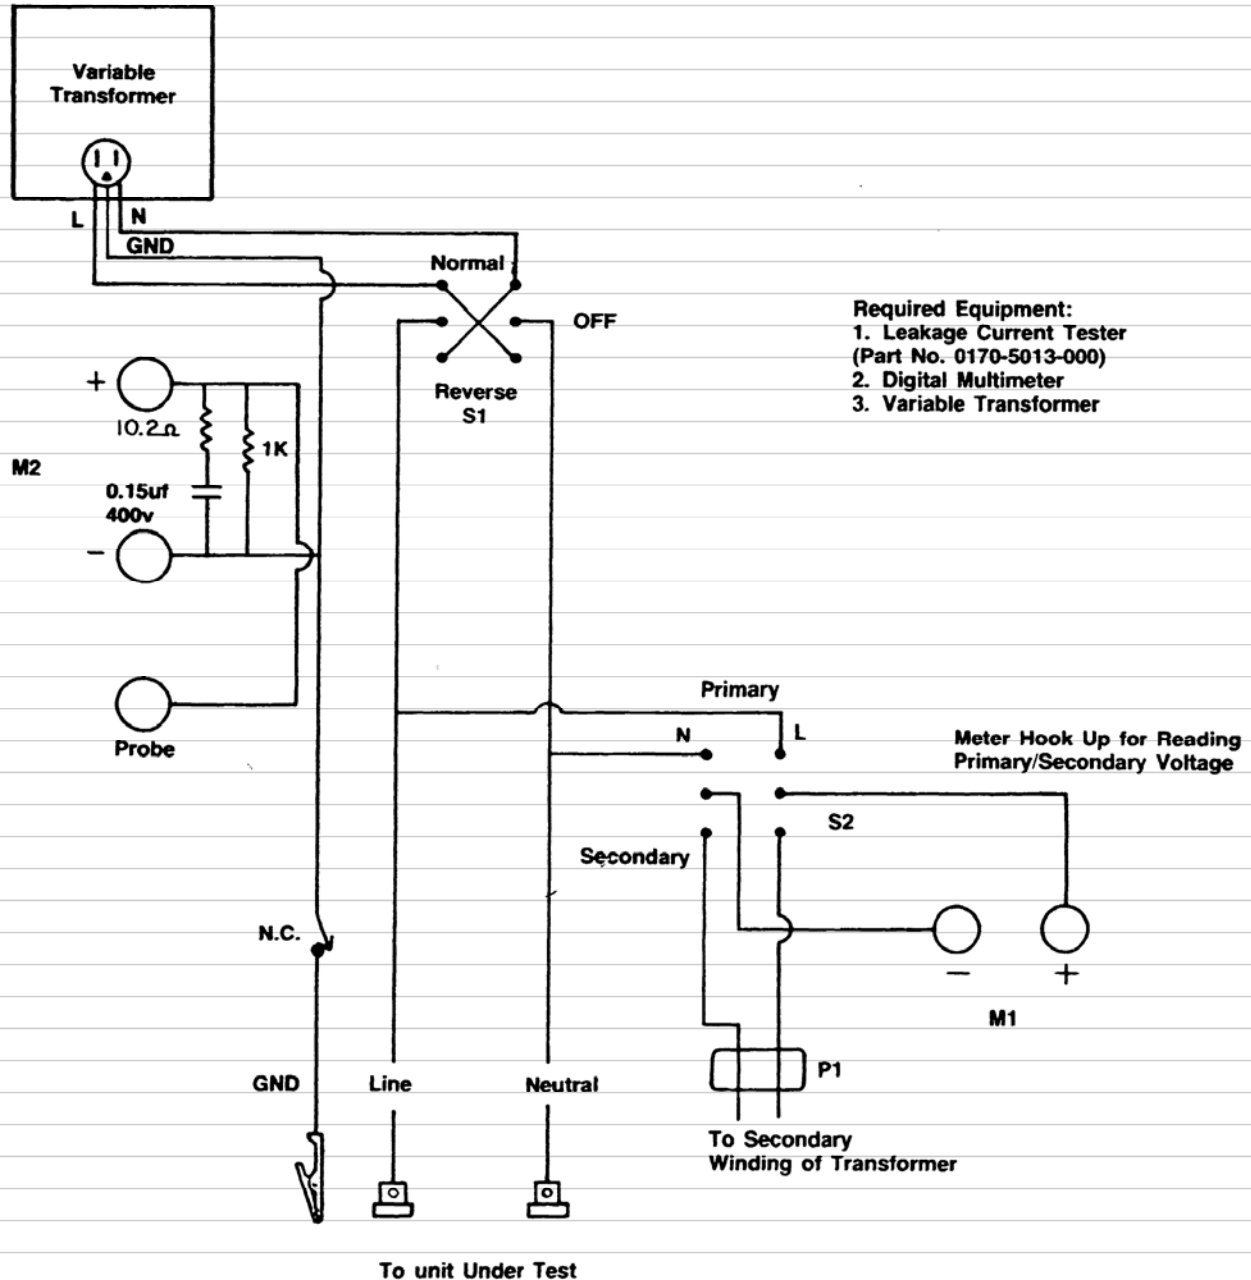

Figure 2-3
(See Figure 2-3)
- a. Connect the power cord of the leakage current tester to a variable transformer (See Figure 2-3).